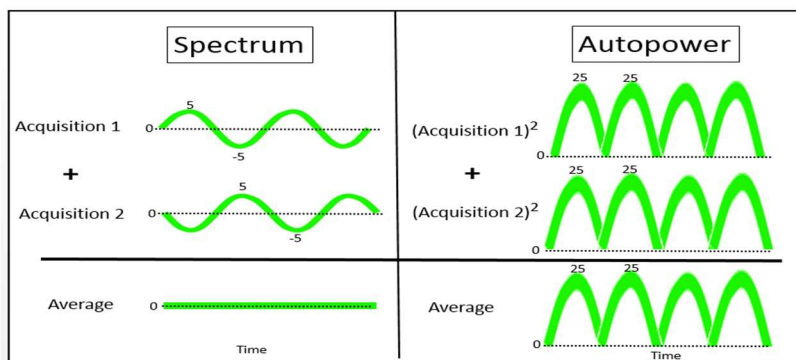

Figure 8: By squaring (right) two out-of-phase sine waves (left), they become all positive and cannot average to zero.
How is the correct amplitude of the average made possible by the Autopower function? How does eliminating phase do this? *Figure 8* contains an *illustrative* example. For clarity, the example is based on time data, but it holds true in the frequency domain:
- On the left side of *Figure 8*, there are two sine waves shown that are out of phase. They clearly average to zero. Even in the frequency domain, they would average to zero because of their 180-degree inverse phase relationship.
- On the right side of *Figure 8*, the two sine waves are squared before averaging. This is equivalent to the multiplication by the complex conjugate in the frequency domain. By squaring the sine waves, they become all positive functions. They cannot average to zero.